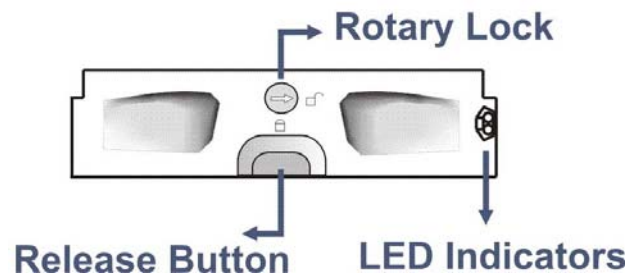

Figure 1-4: Drive Tray Front View
The subsystem comes with sixteen (16) drive trays (see *Figure 1-4*) designed to accommodate separately-purchased, standard 1-inch pitch, 3.5-inch SATA disk drives. Two (2) LEDs on the drive tray's front bezel indicate drive status. A rotary lock on each drive tray prevents unintentional ejection, and a convenient release button releases the drive tray from chassis.